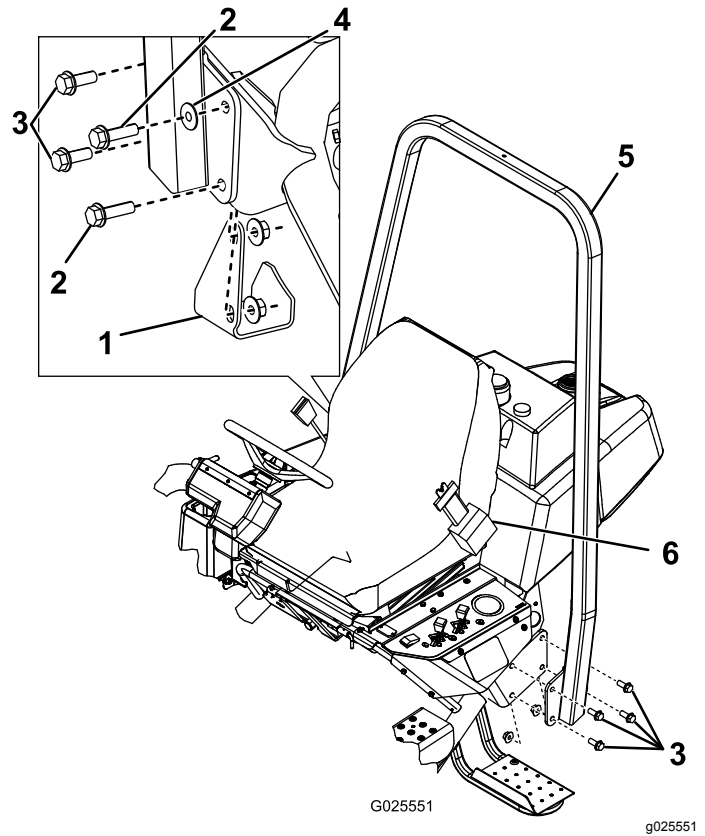

Figure 6
2. Lower the ROPS frame (Figure 6) onto the mounting brackets, aligning the mounting holes.
3. Secure the left side of the roll bar to the mounting bracket with 4 bolts (1/2 x 1.5 inch) and locknuts (Figure 6).
4. Secure the right side of the roll bar and the previously removed jack pad to the mounting bracket with 2 bolts (1/2 x 1.5 inch), 2 bolts (1/2 x 1.75 inch), 1 washer, and locknuts as illustrated in Figure 6.
Important: Ensure that you install the washer in the correct location as illustrated in Figure 6.